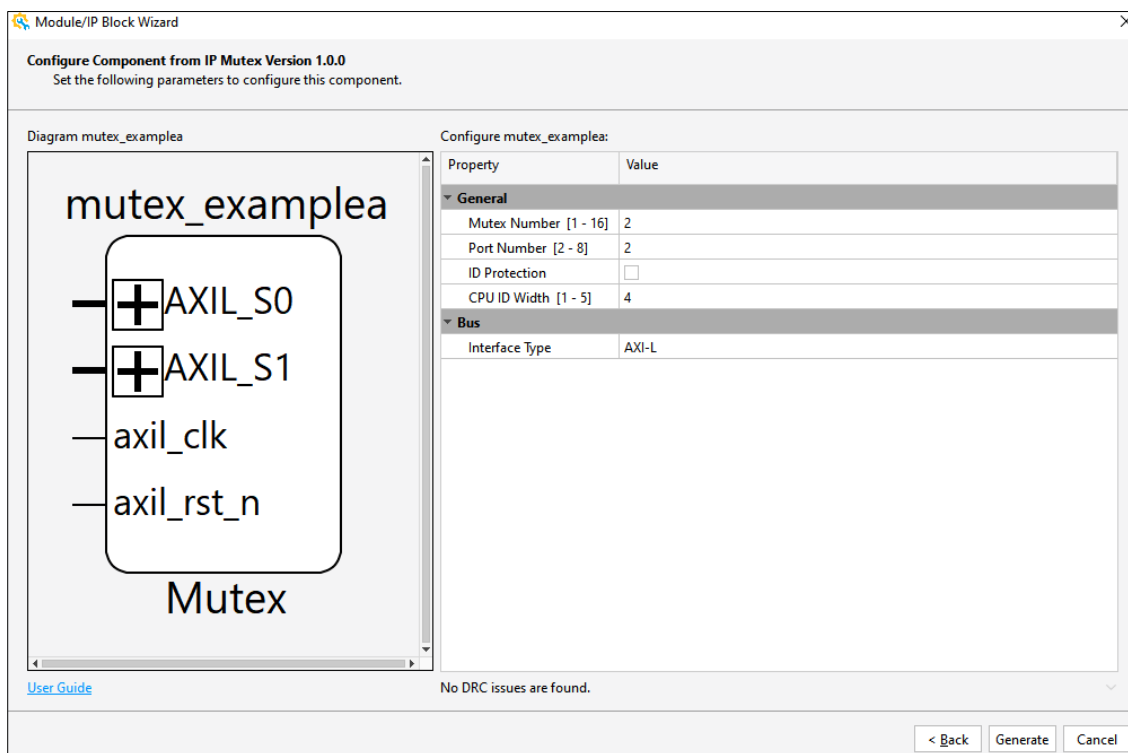

Figure 3.2. Configuring Parameters
3. Configure the parameters as needed. Click **Generate** (Figure 3.2).